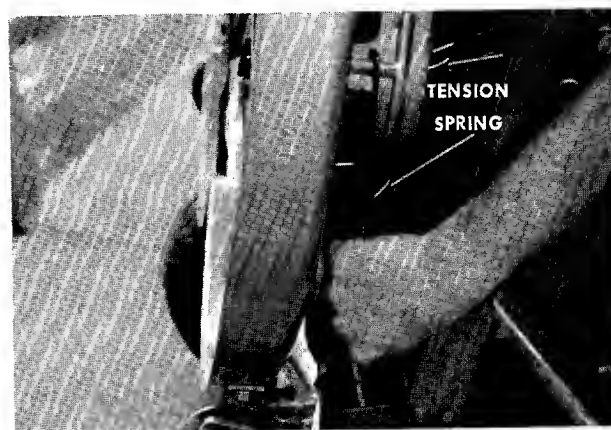

FIGURE 29. REMOVING TENSION SPRINGS
Step 5. Unhook the tension springs on both sides of the deck. See figure 29.
- Step 5. Unhook the tension springs on both sides of the deck. See figure 29.